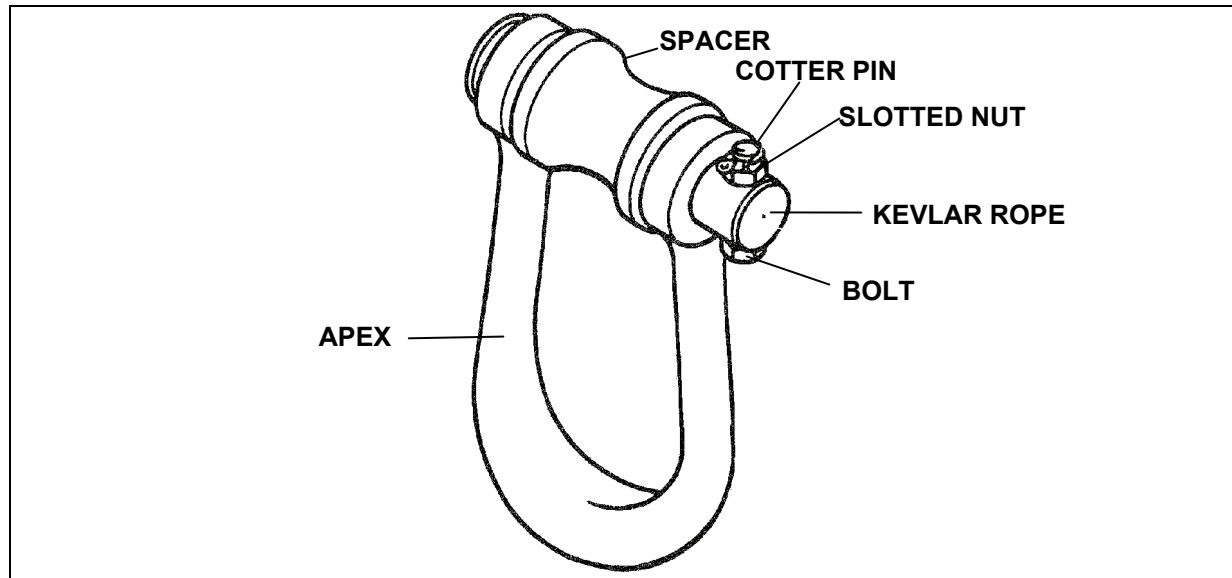

Figure 6-32. 40,000-Pound Capacity Apex Shackle Fitting
- **Apex Shackle Fitting.** The 40,000-pound capacity steel apex shackle fitting holds the sling leg assemblies and attaches directly to the helicopter cargo hook (Figure 6-32). The apex fitting can be easily disassembled to allow for the removal or addition of sling legs as necessary. The spacer helps to center the apex fitting on the cargo hook.